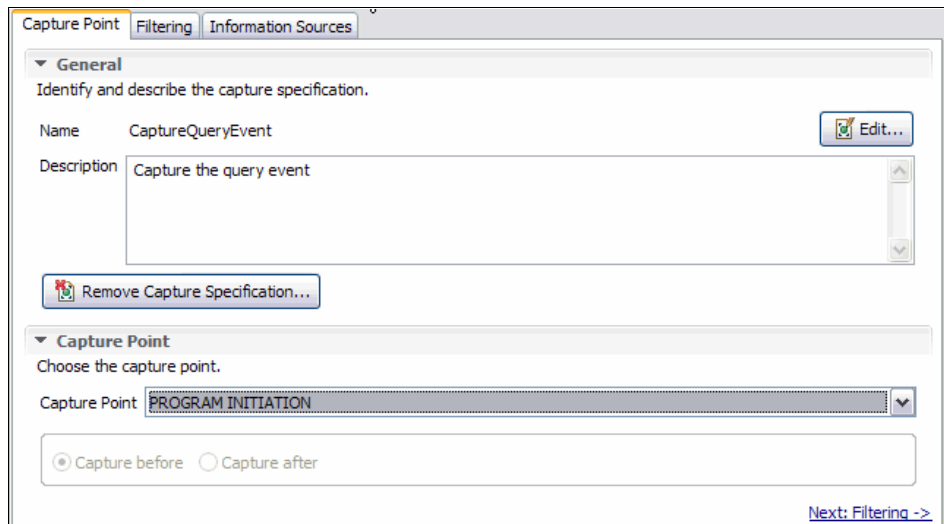

Figure 5-12 Specify capture point for Query Event
11. In the next view, set the Capture Point to PROGRAM INITIATION and click **Next:Filtering**, as shown in Figure 5-12